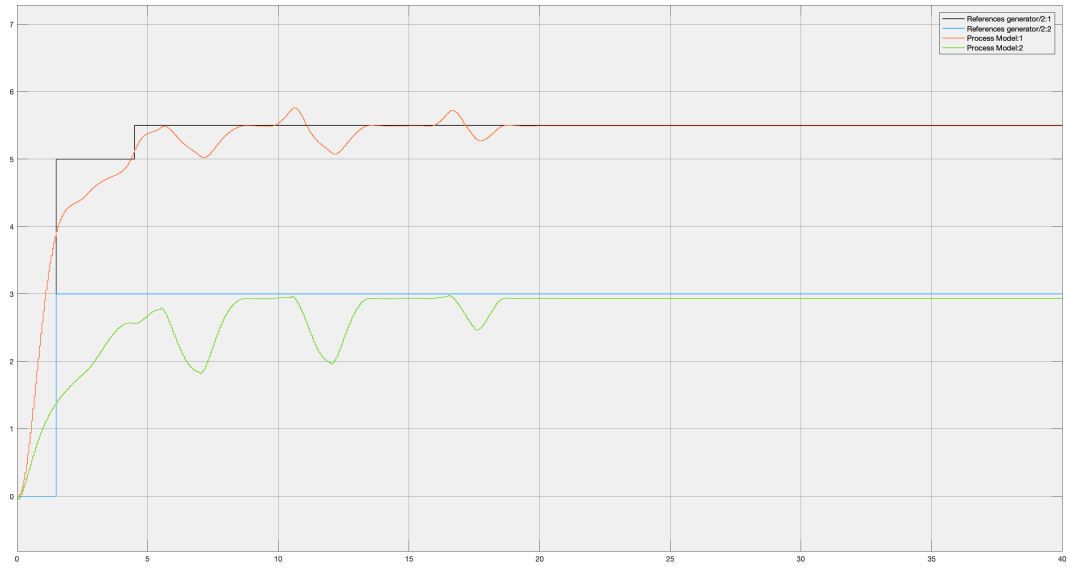

FIGURE 2 – Scope of output measurement : y
**It can be seen from Figure 2 that output  $y_1$  and  $y_2$  converge around the references eventually. However, since the influence of slackers, the outputs are not strictly consistent with the references.**